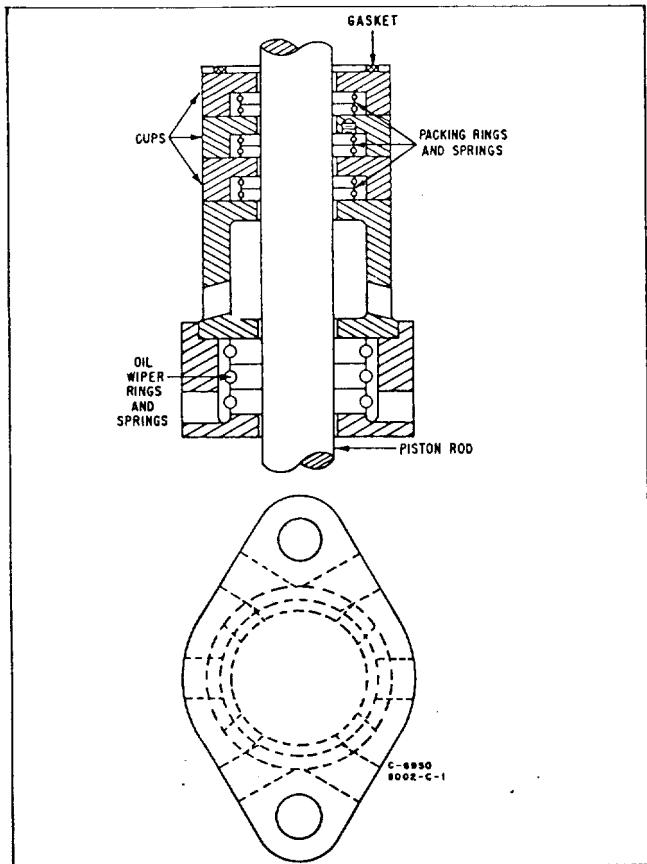
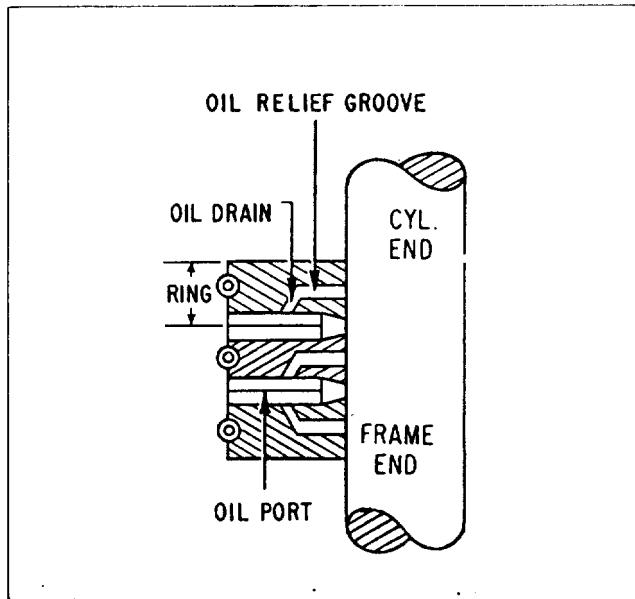

Figure 5-3. Piston Rod Packing and Oil Scraper Rings
Figure 5-5. Oil Scraper Ring Arrangement
are supplied for moderate pressures and temperatures where sufficient lubrication exists. Other ring materials are used for special conditions of pressure, temperature, gas composition, or rod material. See Figure 5-3 for packing illustration.
2. Install the rings on the rod as shown in Figure 5-3. Before the case is closed, pour oil over the rings.
Refer to Figure 5-3 and Figure 5-5.
Renewal oil scraper rings are furnished in sets of three; each ring consisting of three segments. These segments are lettered or numbered and markings of adjacent segments MUST match. Before installing new rings, carefully clean the gland and assemble the rings on the rod as illustrated by Figure 5-3 and 5. The total side clearance of the scraper rings should not be more than $.005"$ (.127 mm). Check this clearance with a straight edge before securing the gland in place. If clearance is insufficient for rings to float on the rod, they will not function properly. Too much clearance will cause the rings to act as a pump instead of wiping oil from the rod.